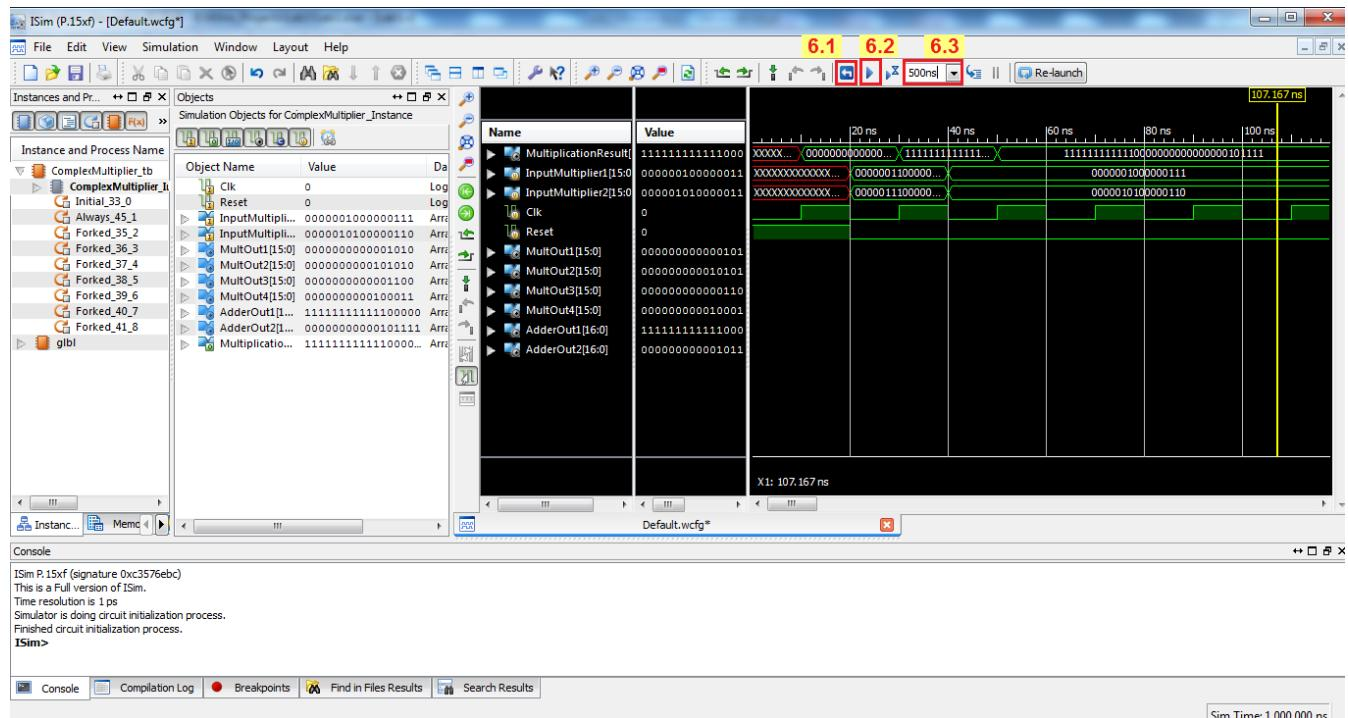

Figure 22.
6. Performing the Simulation (Figure 22)